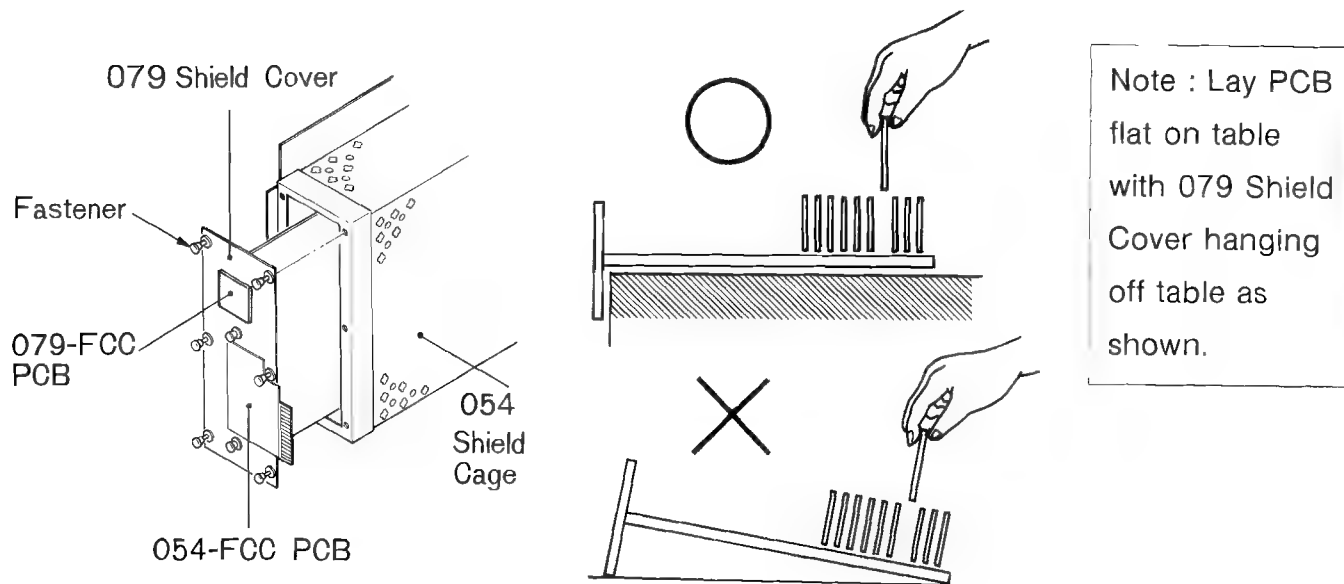

Fig. 15 Game PCB Removal and ROM PCB Exchange
- (e) Pull out 6 Fasteners located on perimeter of the 079 Shield Cover. See Fig. 15.
- (e) After servicing the Game PCB, shut the 079 Shield Cover completely with the Fasteners. See Fig. 15.